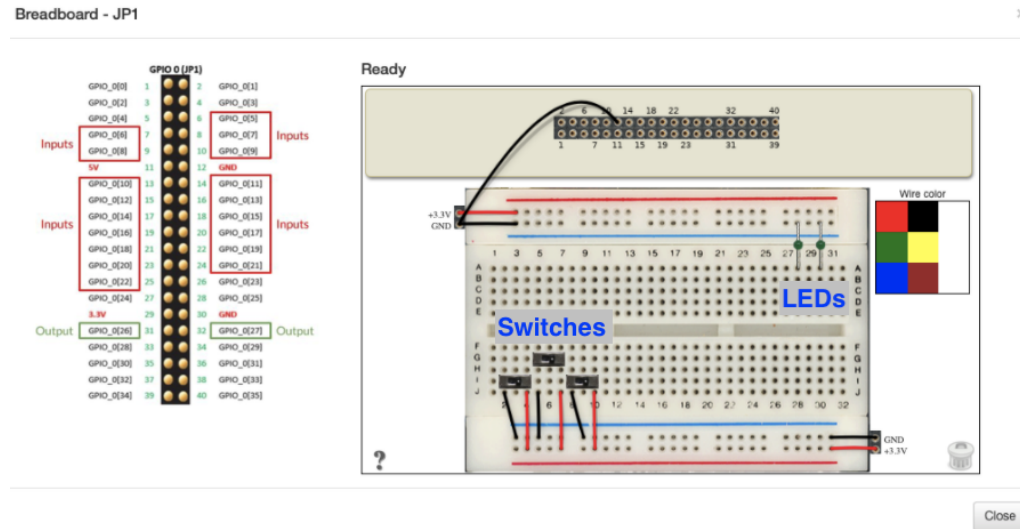
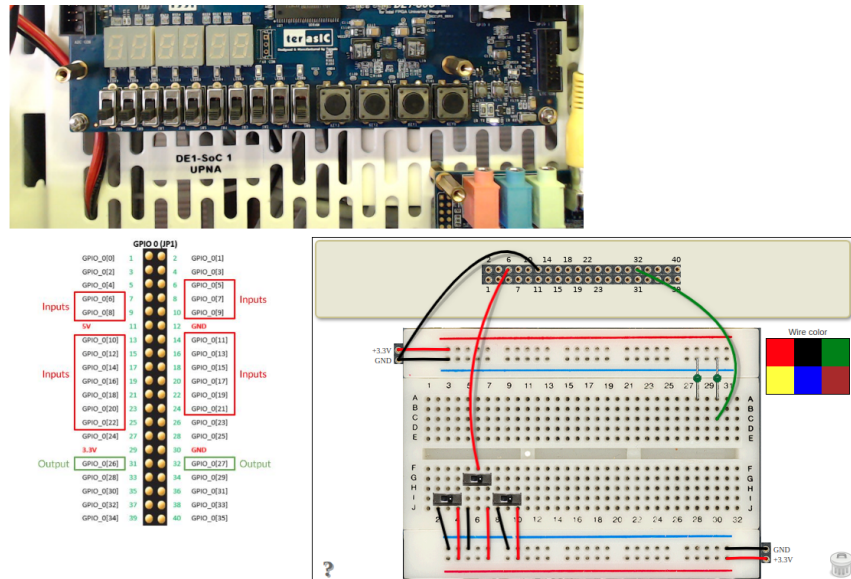

Figure 2. The breadboard configurator on LabsLand
Figure 3: LabsLand load onto FPGA
- You will be directed to the setup window that can be seen in Figure 2. In this window, you can connect circuit components that are available on the breadboard (switches and LEDs) to the GPIOs. The left side shows the relationship between GPIO_0 and JP1. The right side is the actual configurator you will use to connect wires between the GPIO_0 and the circuit components. First, click on a wire color on the right to select a wire. With the wire selected, your mouse now acts as a pen for drawing wires, and thus you need to click and hold your mouse to draw a cable connecting the GPIO header and the breadboard. Repeat the process to create all the wires for your design. All the connections on the breadboard will be automatically saved at this point.
- Once you send the code to the FPGA, you will see the breadboard exactly as you left it in the breadboard configurator shown in Figure 2. Please see Figure 3 as a reference.
// wired according to Figure 3. Specifically, one switch is connected